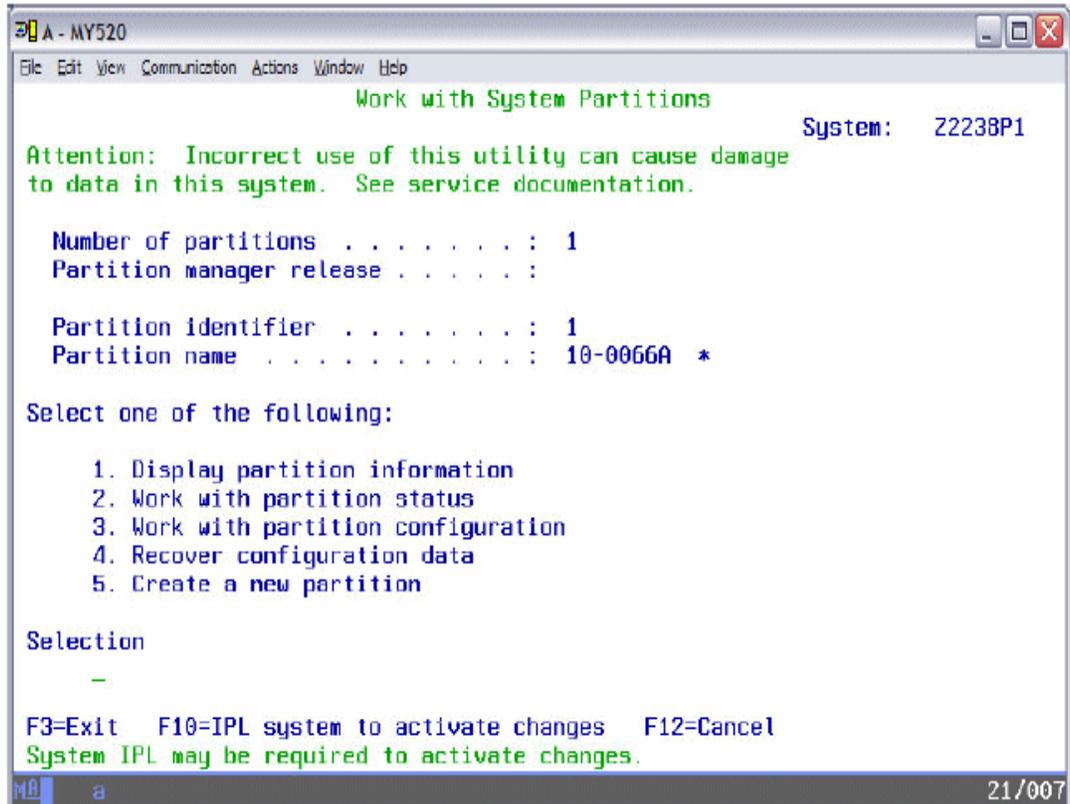

Figure 13-14 Work with System Partitions
1. From the *Work with System Partitions* display, take option **5. Create a new partition** as shown in Figure 13-14.